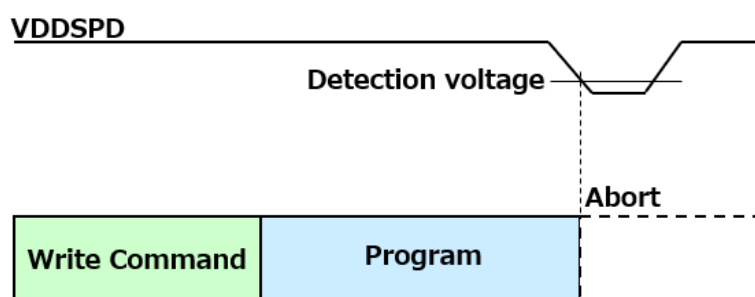

Figure 13 Program abort due to low supply voltage detection
*1. The program abort register indicates write cancel due to low supply voltage detection.(See Figure 13)